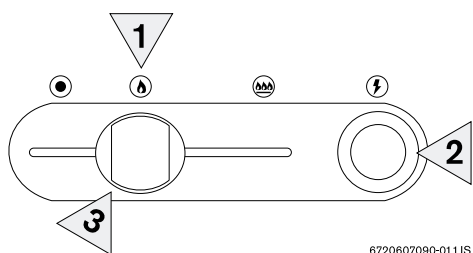

Fig. 13 - Gas control slide - Pilot ignition position
- 12.4 Move the gas control slide to the ignition position (1). (fig. 13).